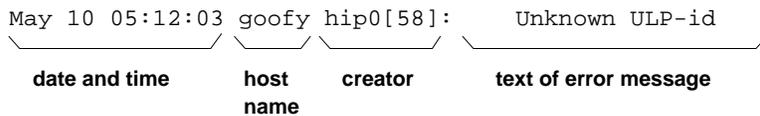

Figure 4-1 Error Message Format in `/usr/var/adm/SYSLOG` File
- Each message is alphabetized by the numerals (0–9) and letters (a–z) of the message’s text. Numerals precede letters. (Figure 4-1 illustrates the text of an error message.)
IRIS HIPPI error messages are written into the file `/var/adm/SYSLOG` or displayed at the terminal; some messages appear in both places. Within the `SYSLOG` file, each message is preceded by the date, time, host name, name of the process that created the message, and process ID number, as illustrated in Figure 4-1. Only the text of the error message (as illustrated in Figure 4-1) is included in the alphabetic list that follows.